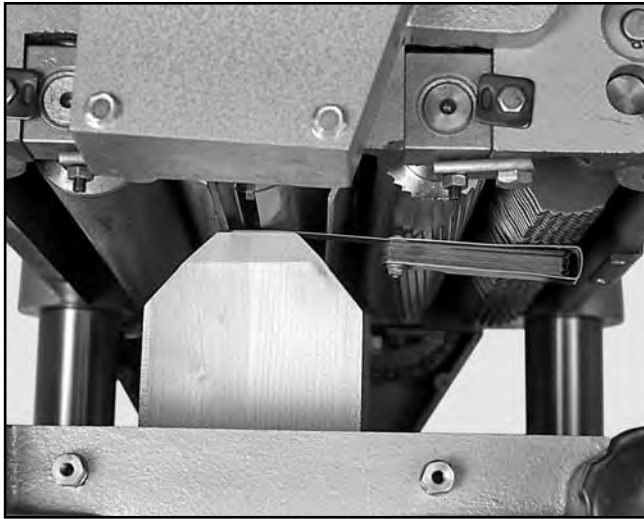

Figure 14. Adjusting knife height.
3. Slide the gauge block to the opposite side of the cutterhead and check the same knife, rocking back and forth to determine bottom dead center. If the knife does not contact the gauge block, use a feeler gauge to determine the difference between one side and the other. **See Figure 14**. Again, rock the cutterhead back and forth over the gauge block and feeler gauge.